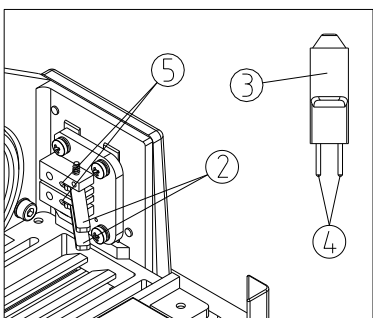

Fig.5
(2) Open the bulb lock sheet (2), hold the bulb (3) with clean glove or tissue and fully insert the pins (4) into the receptacles (5). Make sure the bulb is vertical (See Fig. 5).
(3) Loosen the bulb lock sheet (2) to lock the bulb, and put on the cover group.